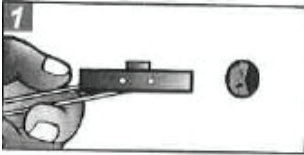

Figure 3.1
3.1 Drill a 7/16" hole in the cab shell at each panel hole location as shown in **Figure 3.1**. Hold metal channel flat alongside plastic straps and slide channel through pre-drilled hole.